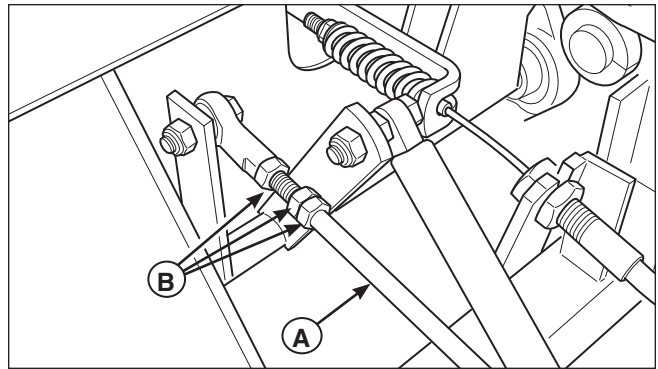

Figure 33. Neutral Adjustment (RH side shown)
2. There are three nuts (B, Figure 33) on the linkage rod. The first two are to be used together to turn the rod and the third (towards the front of the machine) is used to lock the rod in place. Loosen the jam nut that locks against the ball joint (B, Figure 33) and turn the linkage rod (A) to adjust. If the machine creeps forward, turn the rod CLOCKWISE (while standing at the rear of the machine, facing forward), if the machine creeps backward, turn the rod COUNTER-CLOCKWISE.
3. Lock the jam nut (B) against the ball joint when neutral is achieved.